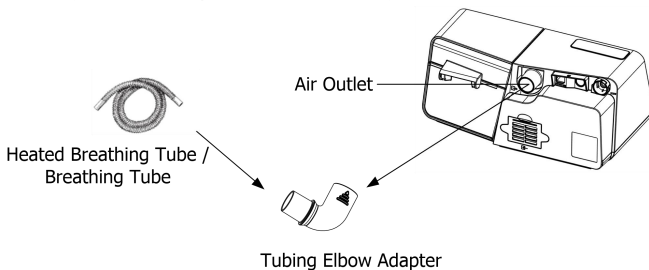

Fig. 12-9
(3) To apply the tubing elbow adapter, connect the tubing elbow adapter between the device air outlet and the tubing (heated breathing tube or breathing tube) as shown in Fig. 12-9. The 90-degree elbow helps to direct the tubing.